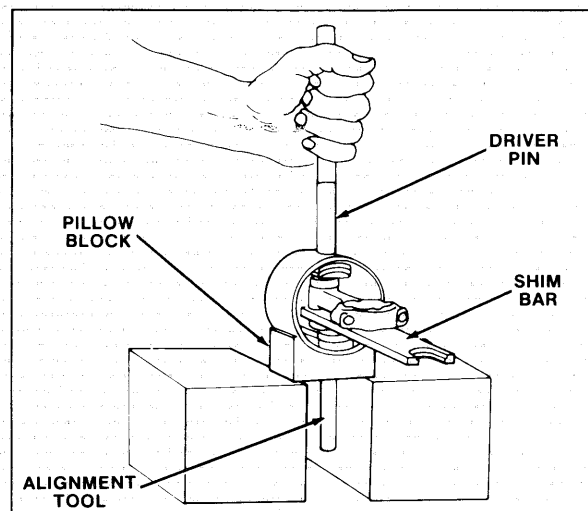

Figure 15—Piston With Components and Tools
G. Install shim bar with end marked "310" between large diameter end of first spacer which was installed and connecting rod. See figure 15.